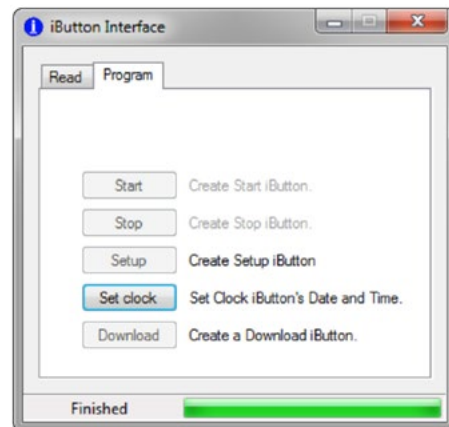

Figure 9
2. Click on the Program tab, to show the programming options for this iButton device (Figure 9).